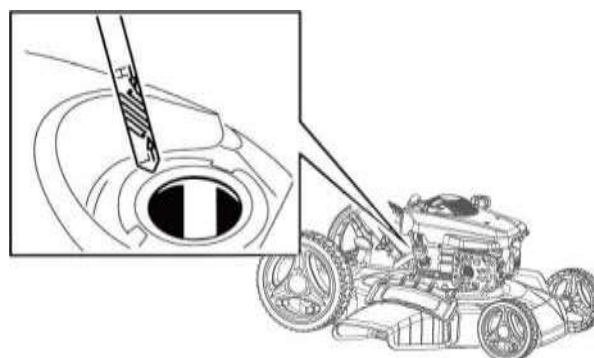

Figure 3
1. Remove the dipstick. (Figure 3)